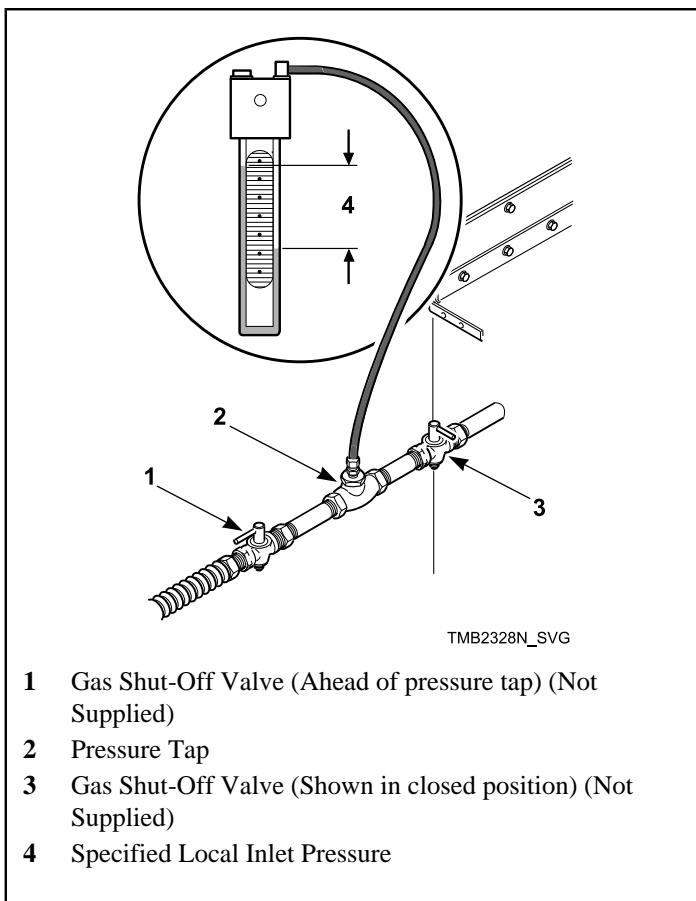

Figure 7
1. Disconnect electrical power from tumble dryer. Close gas shut-off valve to tumble dryer. Refer to *Figure 7* .